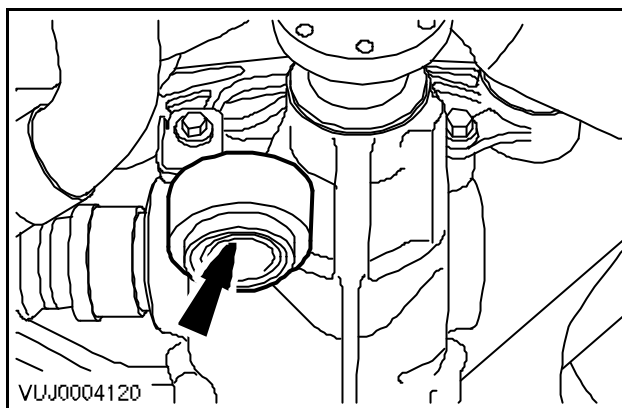

Fig. 1
- 2 Undo and remove damper-to-final drive casing securing bolt. (See Fig. 1)